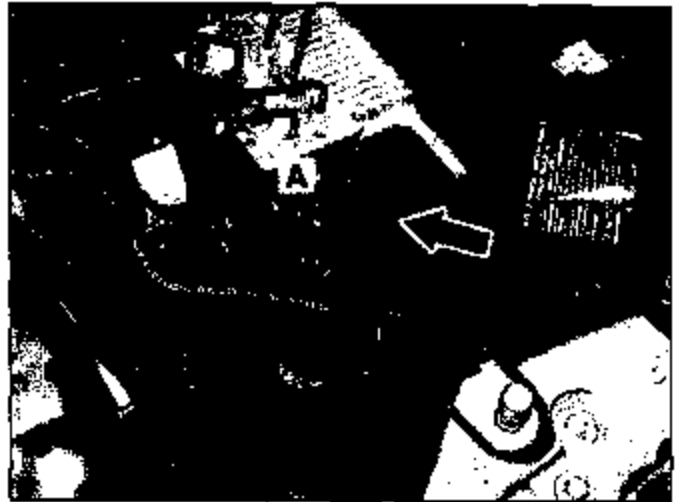

Figure 4
9. Disconnect engine wiring harness connector (arrow, Figure 4) from SBC control module (A).